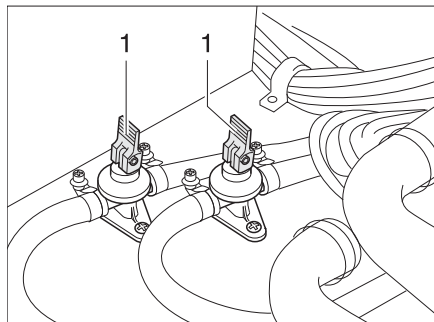

Fig. 128 Drain cocks
- Close the drain cocks. Position the rocking levers (Fig. 128,1) horizontally.
- Open the drain cocks (Fig. 128). Position the rocking levers (Fig. 128,1) vertically. The boiler is drained to the outside using the drain cocks.